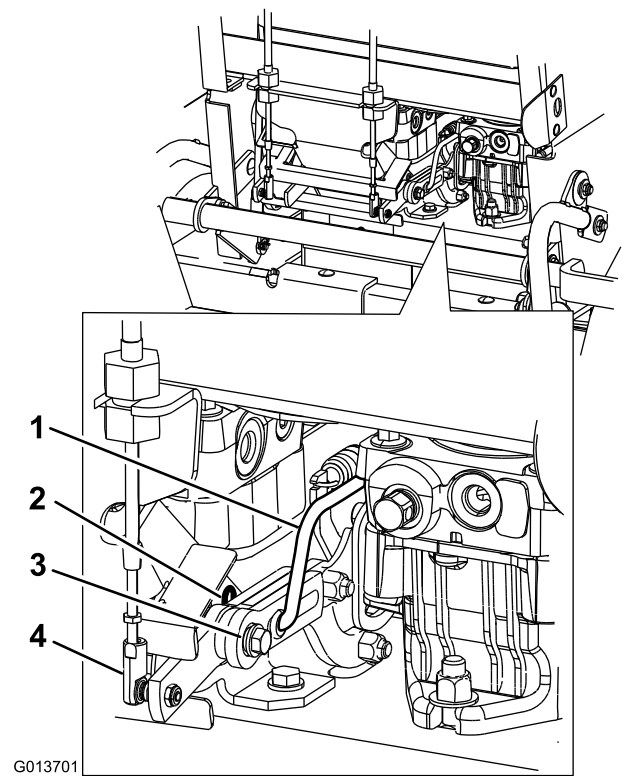

Figure 2
- 3. Remove the hairpin cotter pin and washer from the existing control linkage. Remove the existing control linkage from the forks and pump arm (Figure 2).
- 4. Remove the cable end from the fork (Figure 2).
- 5. Remove the cable end from the cable (Figure 2).
- 6. Remove the bolt, nut, spacer and washers from the fork and the upper and lower switch brackets (Figure 2).